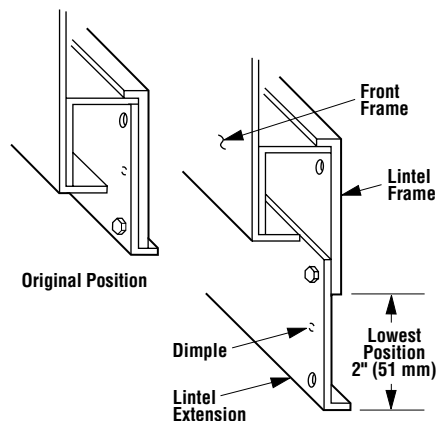

Figure 7
The lintel extension can be lowered a maximum of 2" (51 mm) using a predrilled hole located at the top of the lintel extension. To lower the lintel extension 1" (25 mm), drill a 1/8" (3 mm) hole where the dimple is located. (See Figure 7.)
To lower the lintel extension on Model CST-38, remove the two screws from both ends of the lintel extension (located behind the screen assembly). Slide the lintel extension down and align the desired holes in the lintel extension with the holes in the lintel frame. Reattach using the screws previously removed. Repeat this procedure for the lintel extension on the opposite side of the fireplace. (Figure 7)
On Model CPF-38 the two (2) side lintel extensions are welded to the end lintel extension. The lintel extension lowers similarly to the CST-38 lintel extension. However, to prevent the end lintel extension from being misshaped, follow the following steps while referring to Figure 7.
1. Remove the two (2) screws from one of the side lintel extension, leaving the lintel extension on the other side attached to the lintel frame. Only lower the end of the lintel extension closest to the closed end (refractory wall) of the CPF-38. Aligning the desired holes in the lintel extension with the holes in the lintel frame and reattach using one (1) of the screws previously removed.
2. Remove the two (2) screws from the lintel extension on the other side of the fireplace. Lower the whole lintel extension to the desired holes and reattach using the screws just removed.